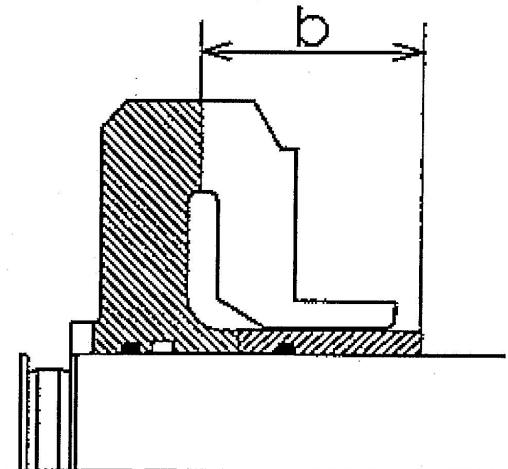

Fig.13 Adjusting Distance "b" in Rotor
- (2) Measure the distance "b" between the contact surface of balancing disc (6010) and the end face of balancing sleeve (5252). (see Fig.13) refinish (adjust) the balancing sleeve (5252) so that  $b=a - 0.3-0.5$  mm is reached. In this case, re-finishing shall be performed carefully not to interfere with the parallelism of the balancing sleeve (52520 and faces. The end face to face parallelism shall be 0.02 mm max.